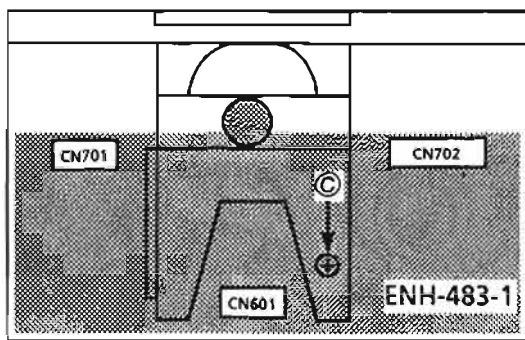

Fig. 3 UP SIDE
2. Remove the 2 screws ②.
- Disconnect the CN601. (Fig.3)
2. Disconnect the CN701 and CN702. (Fig.3)
3. Remove the 2 screws ④.
4. Release the hooks ⑤ holding the front panel, and remove the front panel assembly.